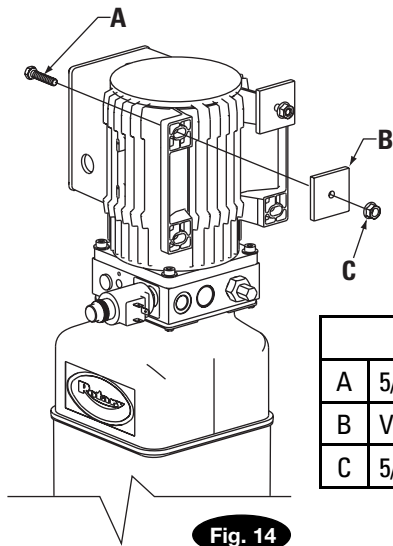

Fig. 14 Detail
Put (2) 5/16"-18NC x 1-1/2" HHCS through top holes in power unit bracket using Vibration Pad to hold in place, Fig. 14. Install 5/16"-18NC Flanged Nuts until bolt end is flush with end of nut. Install power unit onto column extension, Fig. 15. Slide bolt/nut combination into top set of holes and down to bottom of slot. Install HHCS, Vibration Pad, and Flanged HHCS in bottom power unit holes and tighten. (Be sure to place vibration pad between power unit and column extension). Tighten top HHCS and Nut. Install and hand tighten Male Extension to pump until O-ring is seated, Fig. 16. Continue to tighten the lock nut to 14 - 20Nm (1.4 - 2.1kg-m), or until the nut and washer bottom out against the pump manifold.